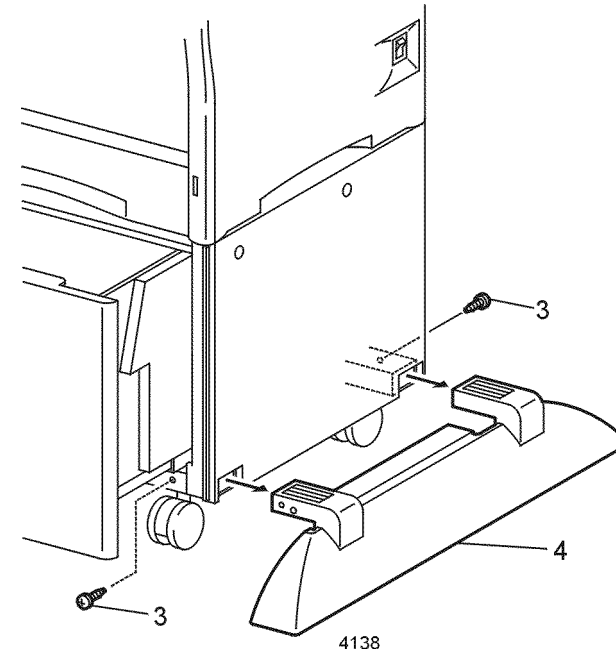

Figure 1 Right Foot
3. Remove the two screws that secure the Right Foot (Figure 1).
4. Remove the foot (Figure 1).